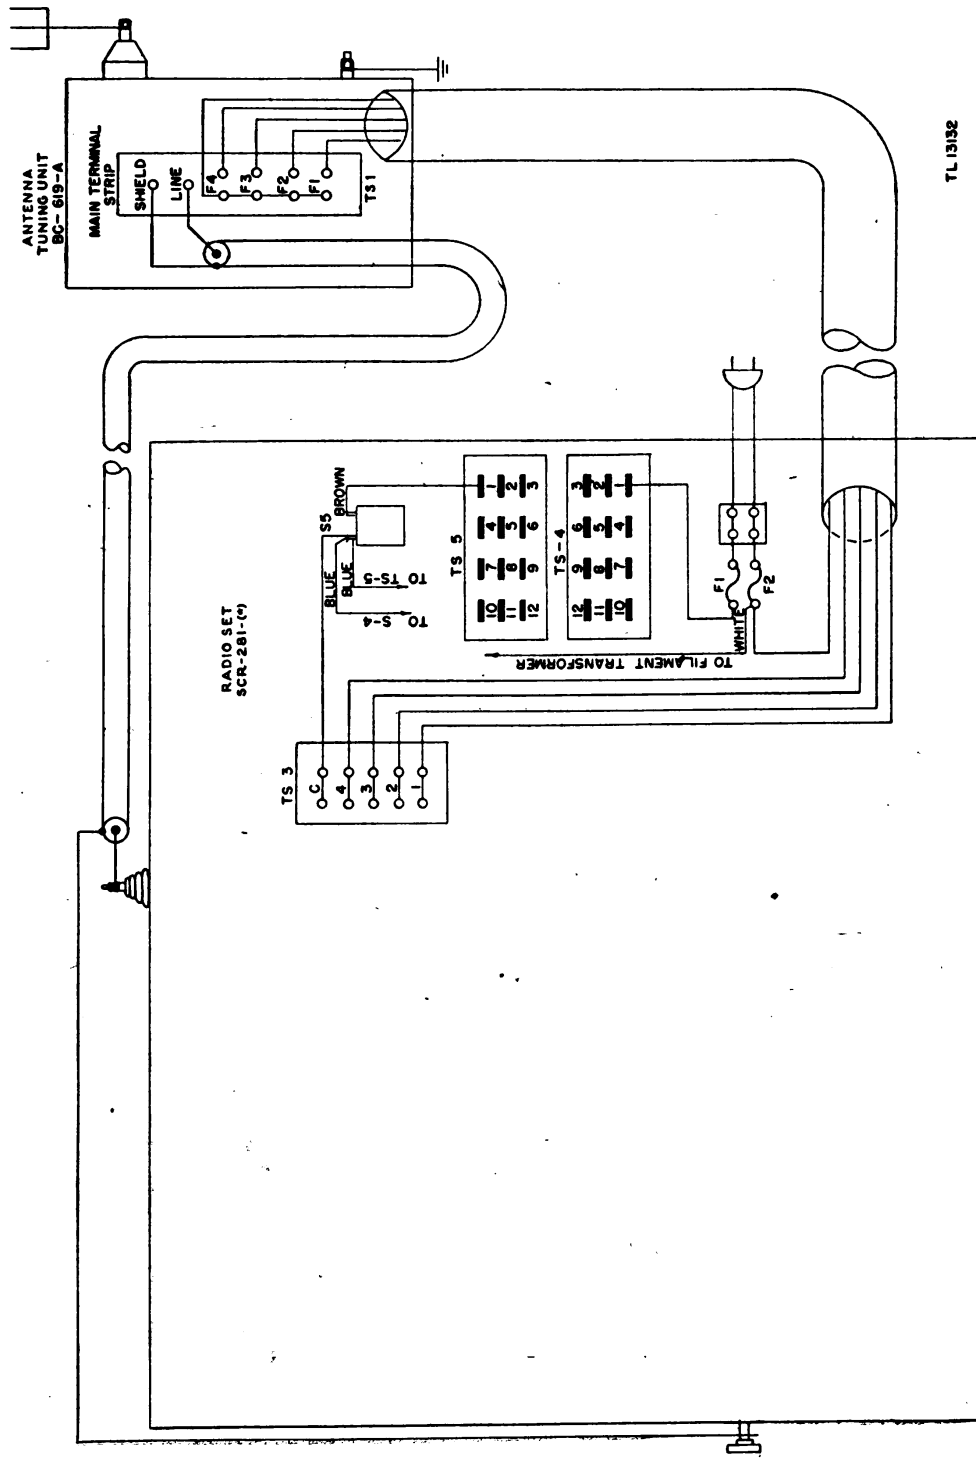

Figure 18. Antenna Tuning Unit BC-619-A—cabling diagram.
tuning unit. Connect conductors 1, 2, 3, and 4 to their respective terminals F1, F2, F3, and F4 on one side of the main terminal strip TS1, as illustrated in figure 18. With a jumper wire, connect together terminals F1, F2, F3, and F4 which are on the other side of the same terminal strip. Connect conductor 5 of the cable to any one of the jumpered terminals.
g. Insert the other end of the relay control cable through the opening (next to the power cord grommet) on the right side of Radio Set SCR-281-(*). Connect conductors 1, 2, 3, and 4 to their respective terminals on terminal strip TS3 (fig. 18). Connect conductor 5 to the terminal of fuse F2 (fig. 25) to which the white lead of the filament transformer is connected.
h. Complete the relay control circuit with a short lead of insulated wire from terminal C of terminal strip TS3 to the terminal of the POWER ON-OFF switch S5 which terminates the two blue wires from switch S4 and plug TS5 (figs. 18 and 28).